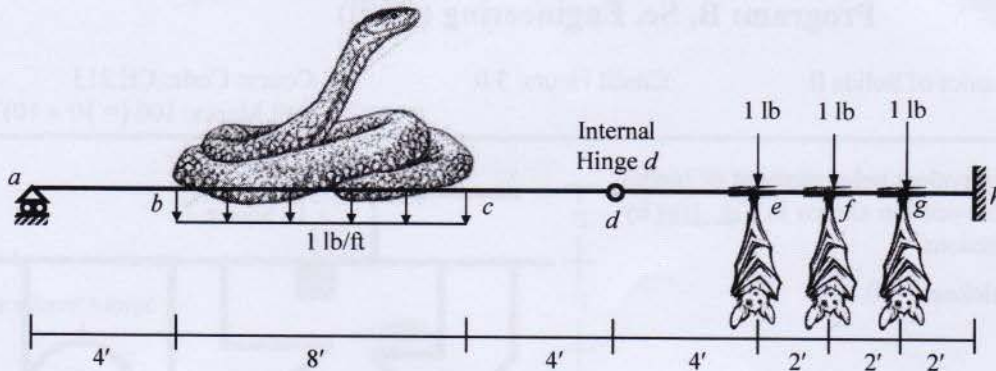

Fig. 3
3. Fig. 3 shows a beam  $abcdefgh$  carrying a distributed load (1 lb/ft) from a snake over the length  $bc$  and concentrated loads (1 lb, 1 lb, 1 lb) at  $(e, f, g)$  from three bats.
5. If the roller support  $a$  (of beam  $abcdefgh$  in Fig. 3) is replaced by a fixed support (shown in Fig. 4), use *Moment-Area Theorems* OR *Conjugate Beam Method* to calculate